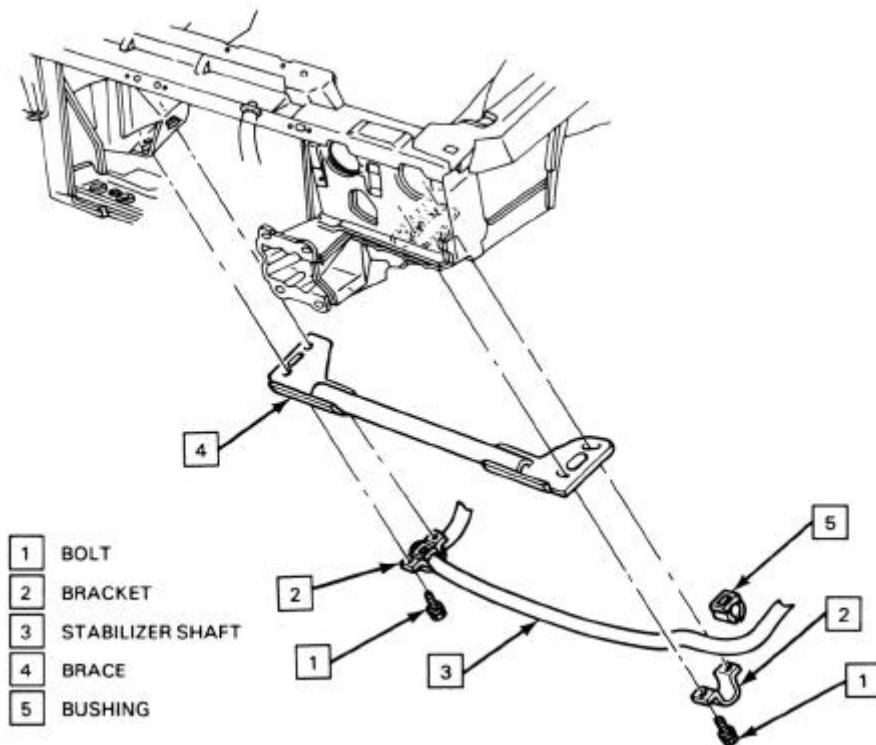

Figure 1
Now that you've taken some of the flex out of the chassis, there is another item to consider. Figure 1 below shows an item 4 called a "Brace". This is a Steering Brace (aka Wonderbar). GM installed these on 1985-90 Camaro IROC-Z when equipped with the 16" diameter rims. The Steering Brace performs two functions. First it ties the left and right sides of the frame together under the front of the car, which maintains the correct geometry of the pitman arm and idler arm during cornering. Second, the Steering Brace strengthens the chassis and takes stress off of the steering gear box mount. It is common in ThirdGen F-Bodies for fatigue and stress cracks to form around the steering gear box mounting location. Installing a Steering Brace will help tighten up the front end and prevent stress cracks from occurring. GM has recently discontinued their Steering Brace. Top-Down Solutions makes a version of the Steering Brace (p/n 105021) for the 1982-92 F-Bodies that has several improvements over GM's original version.